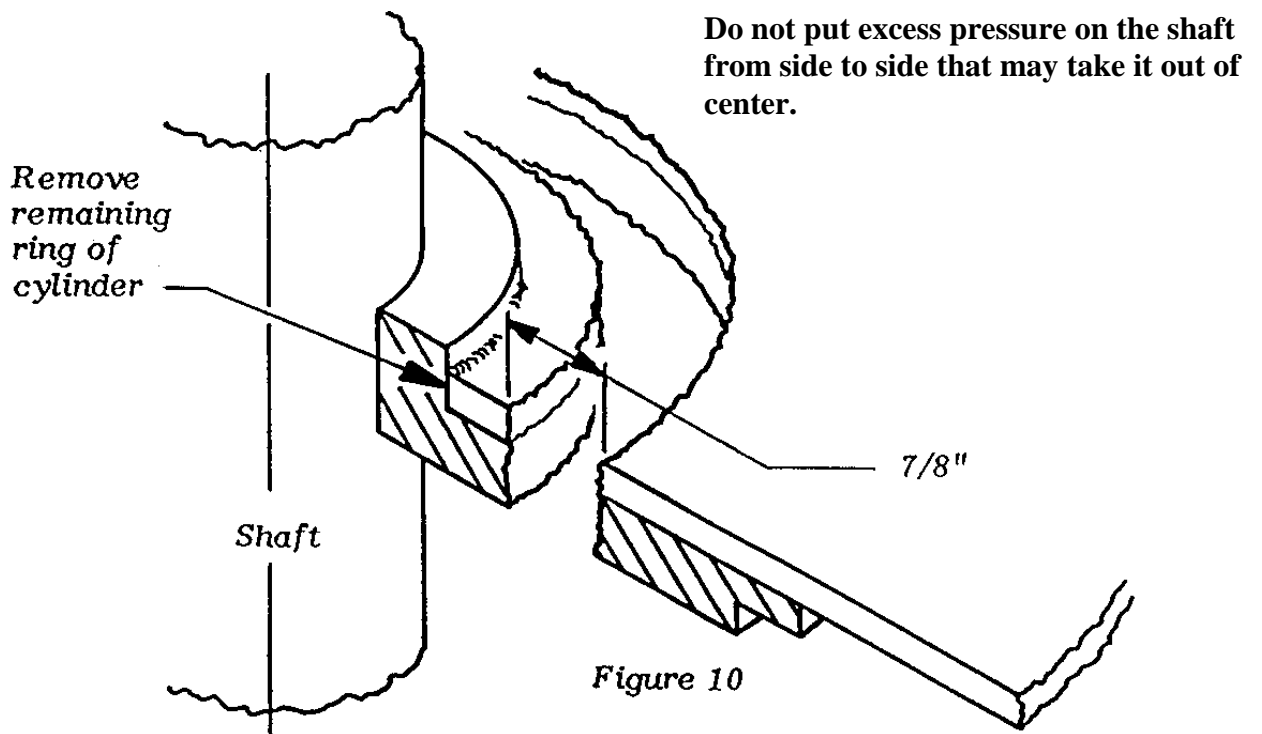

Figure 10
Step 2. Cut out the $7/8''$ section shown in Figure 10 below. When this section is removed the shaft will remain centered because of the stabilizing bars in the shaft tunnel and the rear hub.